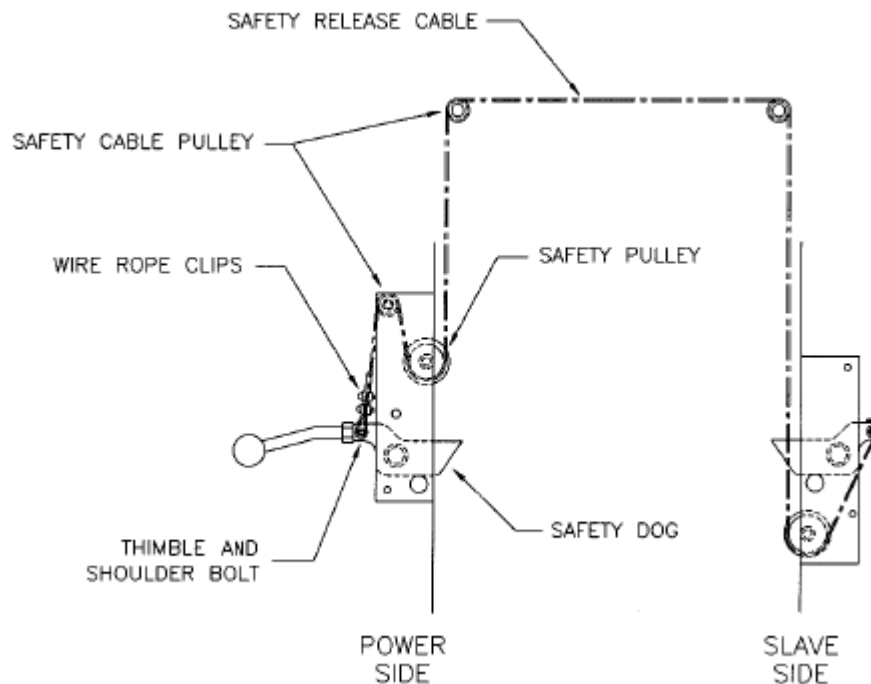

Figure 9 – Safety Release Cable Routing and Adjustment
1. Refer to **Figure 9** for safety release cable routing.
2. The end with the collar is to be installed onto the slave side tower, while the loose end will be installed onto the power side tower with two (2) wire rope clips.